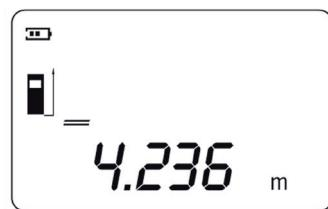

Fig. 5
4. The length is displayed on the bottom line of the screen in large digits and the laser beam switches off (fig. 5).